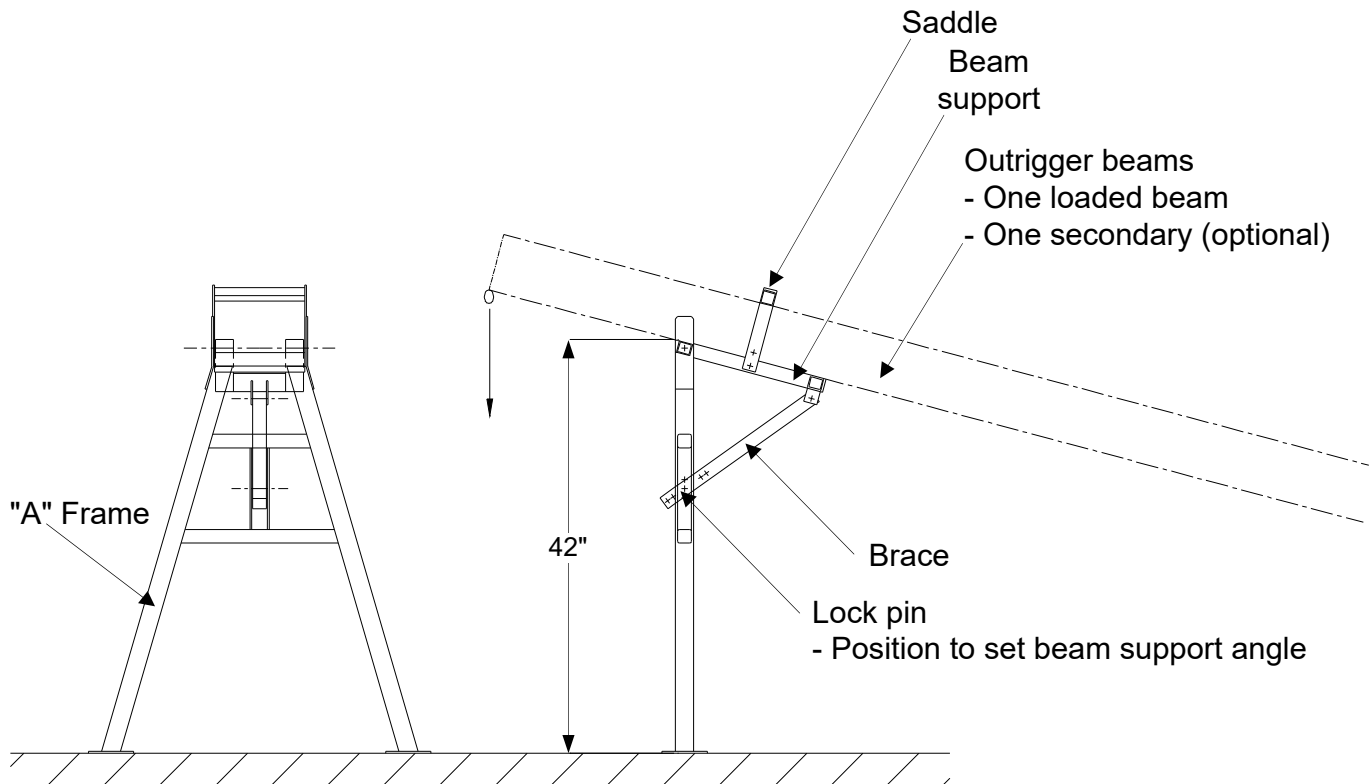

Figure 10. Beam Stand Installation
1. Raise the “A” frame to the vertical position and remove the retaining saddle (see Figure 5, Figure 10).